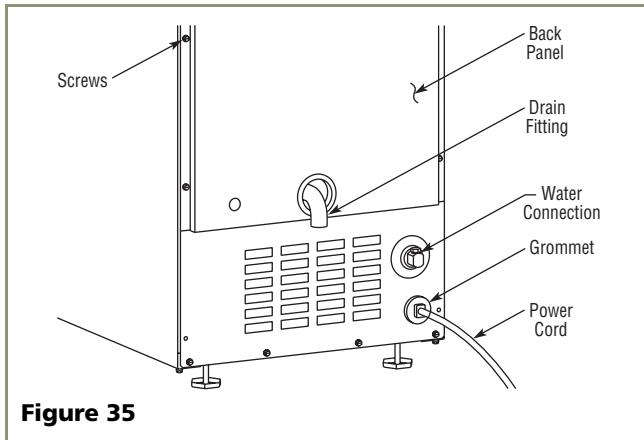

Figure 35
2. Carefully push the power cord grommet through the hole in the back panel (see **Figure 35**).